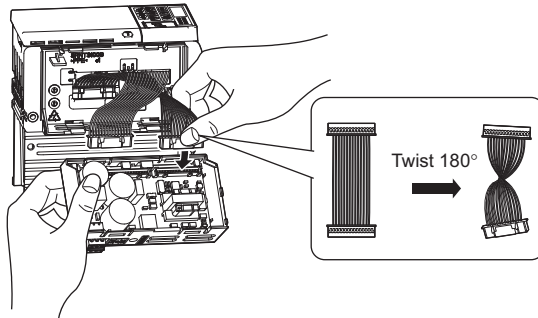

Figure 15 Plugging the Connector into the 24 V Power Supply Unit (PS-V10S) (connecting the power board)
1. Position the drive on its side or its back as shown in **Figure 15**. Twist the cable with black connector ends 180 degrees.